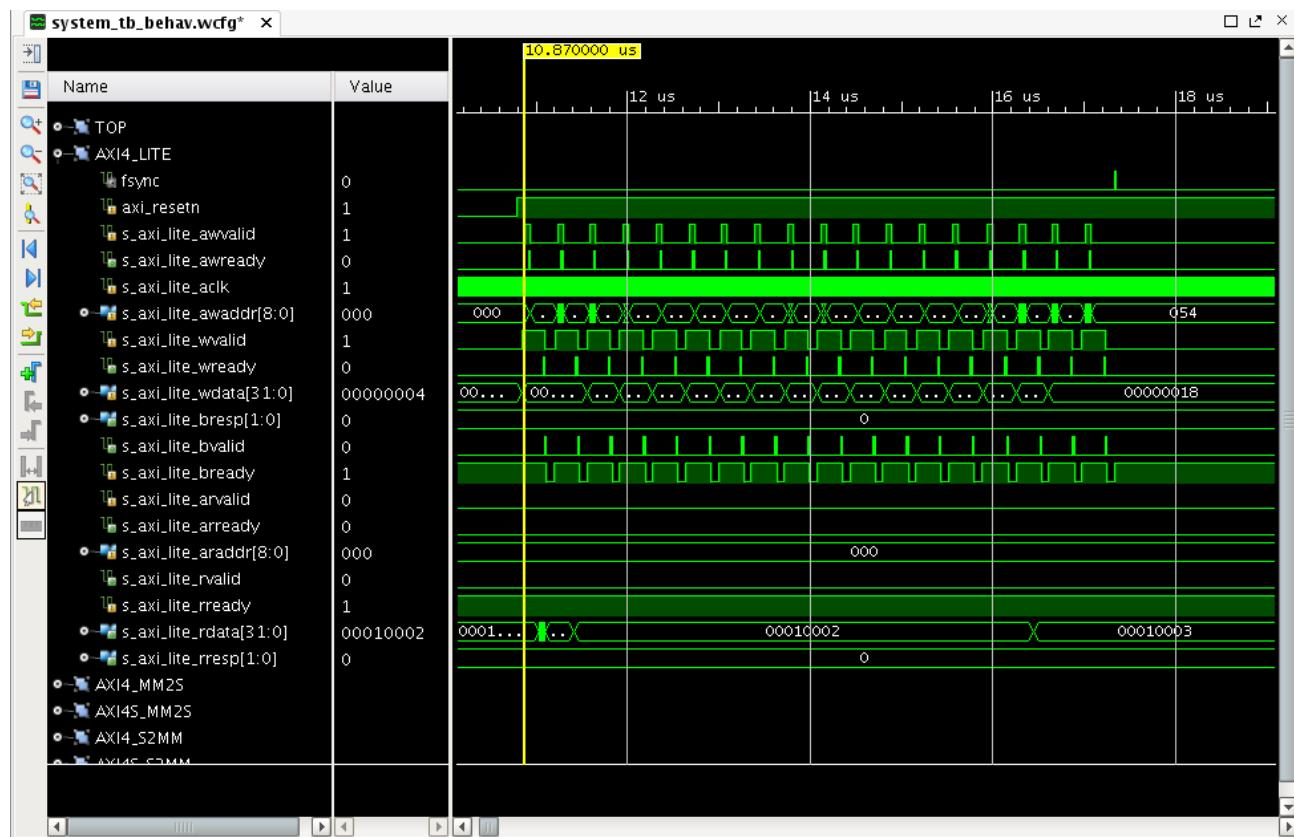

Figure 2: AXI4_LITE-fsync Generated by Test Bench
2. Expand the AXI4_LITE group and zoom in between 10.8 μ s and 17.5 μ s. During this time period, the Zynq-7000 BFM M_AXI_GP0 is writing to the slave registers on the AXI VDMA core to configure the core for the video pipeline. After writing the vertical size into an AXI VDMA register, the VDMA is activated and the fsync signal is generated by the test bench. This is shown in Figure 2.